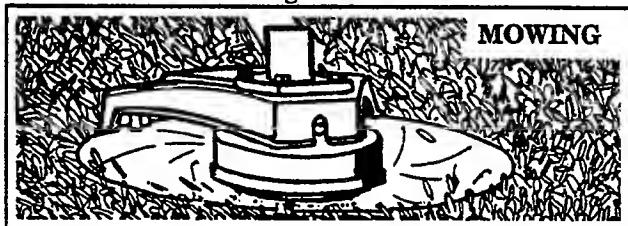

Figure 13
- MOWING**– Figure 13 . Your trimmer is ideal for mowing in places conventional lawn mowers cannot reach. In the mowing position, keep the line parallel to the ground. Avoid pressing the head into the ground as this can scalp the ground and damage the tool.